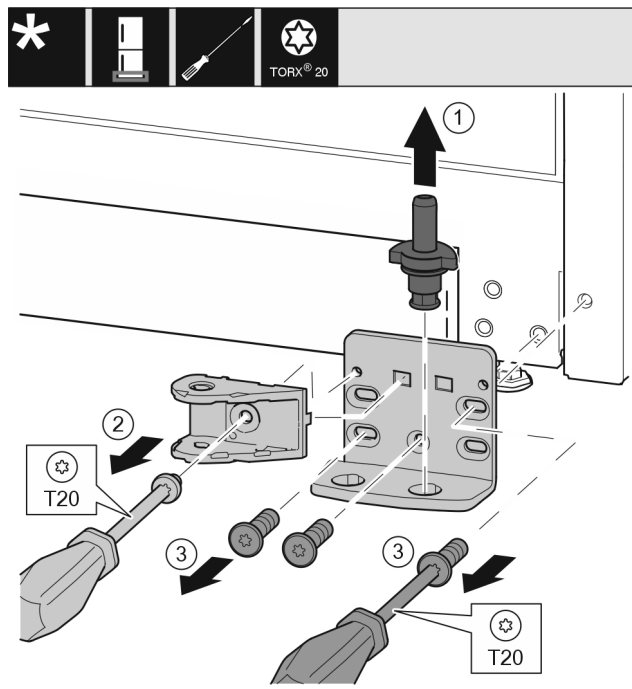

Fig. 32
- Lift the bearing pin completely upward and remove it. Fig. 32 (1)
- Remove the screw with the T20 screwdriver and take off the soft close connection. Fig. 32 (2)
- Remove the screws with the T20 screwdriver and take off the bearing bracket. Fig. 32 (3)